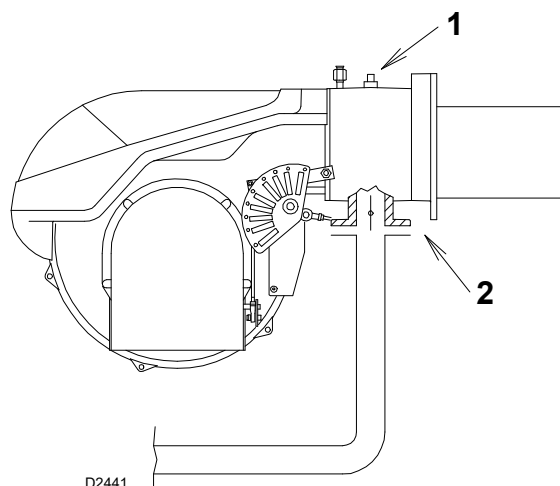

Fig. 21
Δp_1 - Gas pressure is measured at the test point 1)(Fig. 21), with:
Δp_2 - Load loss at gas butterfly valve 2)(Fig. 21) with maximum opening: 90°.
- subtract the combustion chamber pressure from the gas pressure measured at test point 1)(Fig. 21);
- Gas pressure at test point 1)(Fig. 21) = 4.09" WC